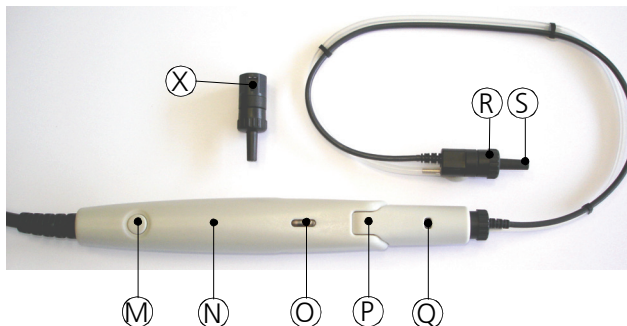
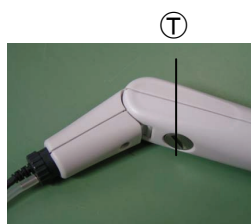

Figure 8 MI 44 probe with additional screening probe tip ⑧
Figure 9
The probe of the MI 44 is shown in figure 8. The probe head is adjustable in three steps (0°, 60° und 80°). It is adjusted by releasing the fixation screw (Figure 9 ①) at the bottom of the probe a few turns, using a coin or a screw driver. Adjust the probe head ② by pulling it into the required position until it rests. To do this hold the probe handle ③ with the other hand. After it is set to the required position fasten the fixation screw ① again.